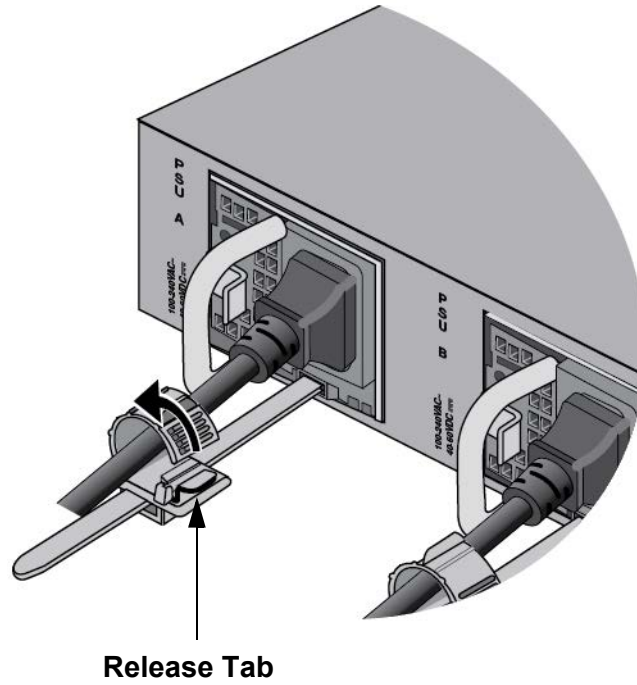

Figure 131. Opening the Restraining Strap on the Power Supply
2. Open the restraining strap on the power cord by pressing down on the release tab and pulling out the strap. Refer to Figure 131 on page 204.